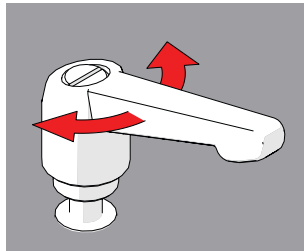

Fig. 18 - Rotate handle
2. Continue to pull while rotating the lever in the appropriate direction (Fig. 18).